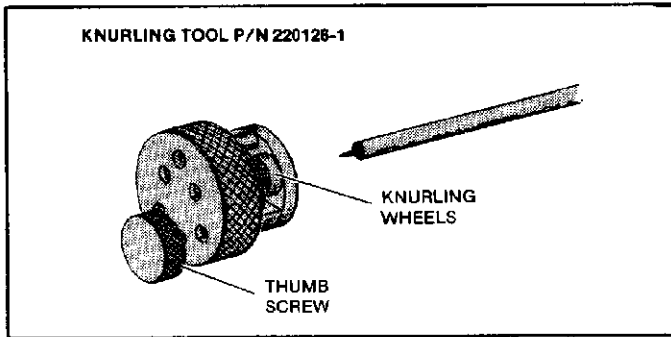

Figure 4
- Back off thumb screw on knurling tool approximately 1 turn. See Figure 4.